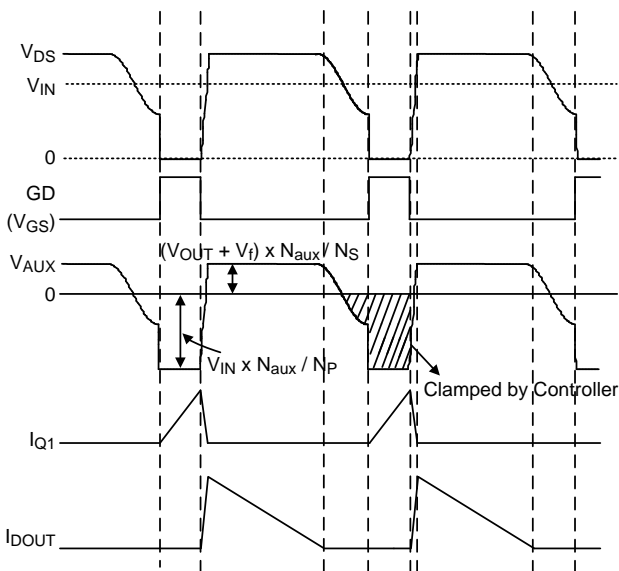

Figure 3. Key Waveforms of a Flyback Converter
The RT7306D needs no shunt regulator and opto-coupler at the secondary side to achieve the output current regulation. Figure 3 shows several key waveforms of a conventional flyback converter in Quasi-Resonant (QR) mode, in which V_{AUX} is the voltage on the auxiliary winding of the transformer.